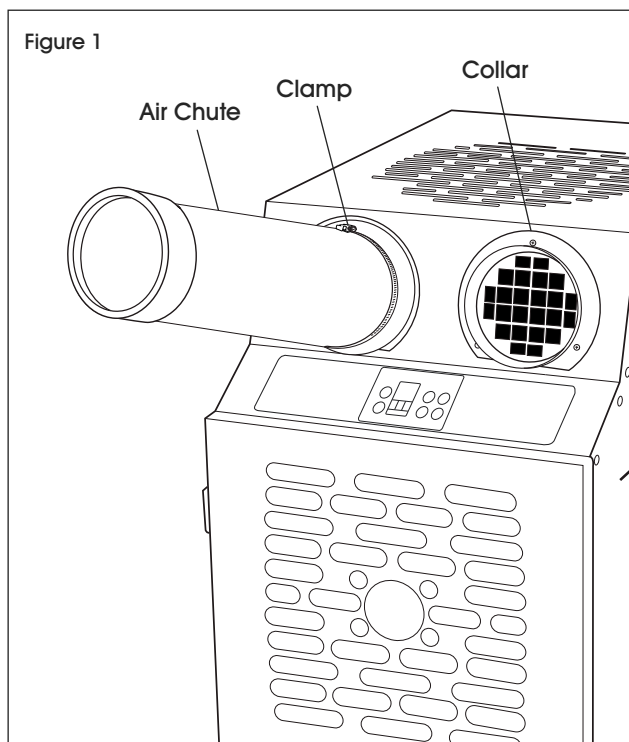

Figure 1
1. Remove air chutes from accessories box. Place unfinished end of air chute onto collar. Clamp with supplied clamp using a 5/16 nut driver or a flat screwdriver. (See Figure 1)